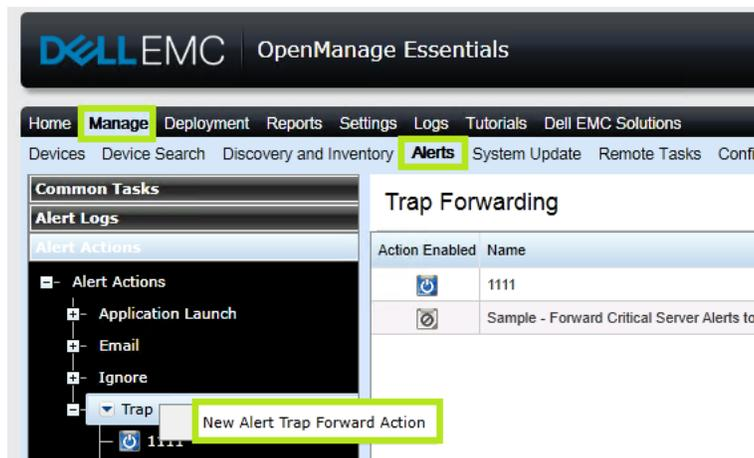

Figure 13 Creating A New Alert Trap Forward Action
1. Click **New Alert Trap Forward Action** as shown in Figure 13, type a name.